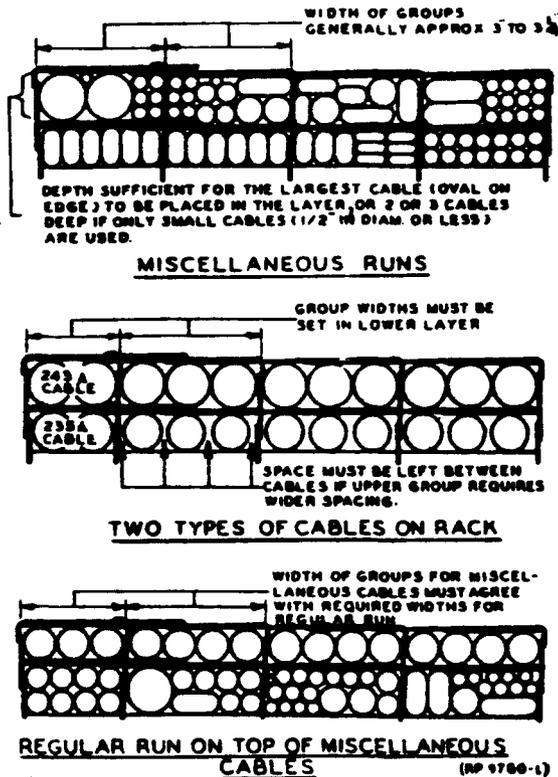

FIG. 8 CLIPPING GROUPS OF VARIED SIZES OF CABLE (PAR. 4.13)
4.13 Different size cables can usually be clipped to best advantage by using a clip depth sufficient to take the largest size cables in the layer. Smaller cables may then be built up on the flat edge to equal this depth. If all cables are small (1/2" in diam. or less) clip two or three layers deep whenever possible. Typical arrangements are shown in Figure 8.